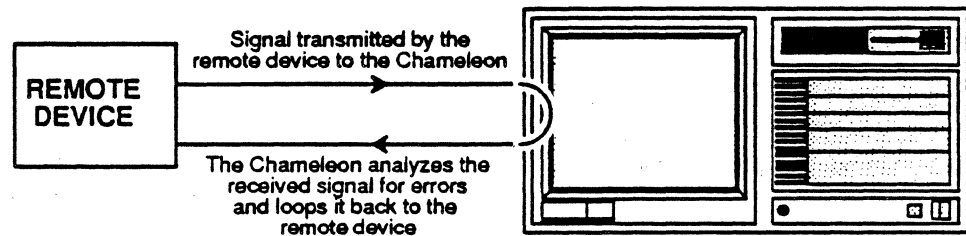

Figure 11.10: Signal Path in Local (Transmit) Mode.
**F2LOCAL** is a *logical* loopback mode in which the Chameleon waits for synchronization on an incoming BERT pattern. It then transmits that pattern back to the remote device. The Chameleon does a full validity check on the received pattern. (Figure 11.10).